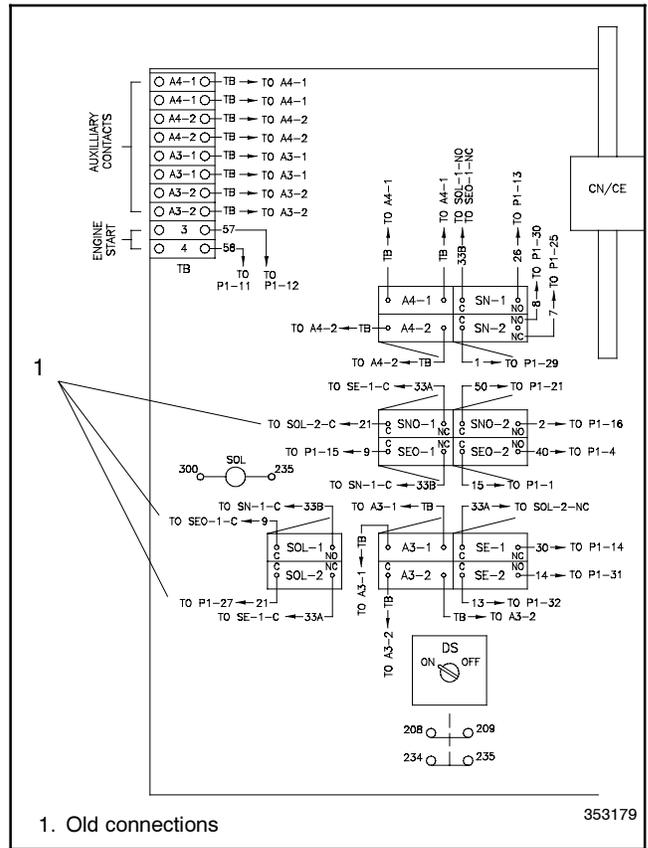

Figure 53 Old Connections, 40-260 Amp Models
45. Disconnect lead 9 from terminal C of SOL-1. See Figure 53. Tape off lead 9 and secure it out of the way.
47. Disconnect lead 21 from SOL-2 terminal C. See Figure 53.